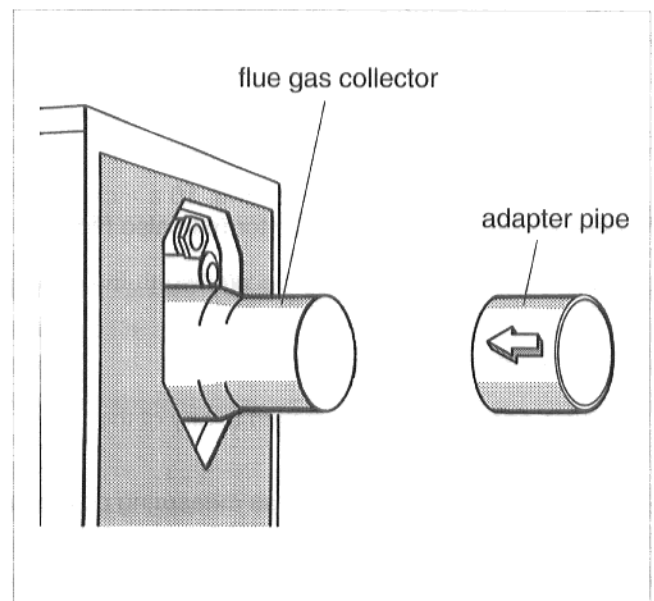

Fig. 7
- Push the adapter pipe (5") onto the flue gas collector to maximum depth (Fig. 7).